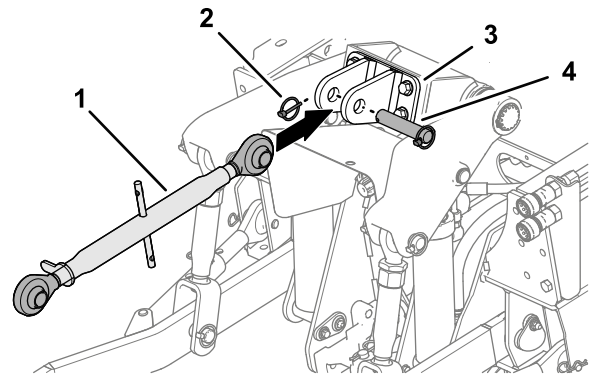

Figure 16
3. If removed, install the upper 3-point link (Figure 16) to the traction unit.